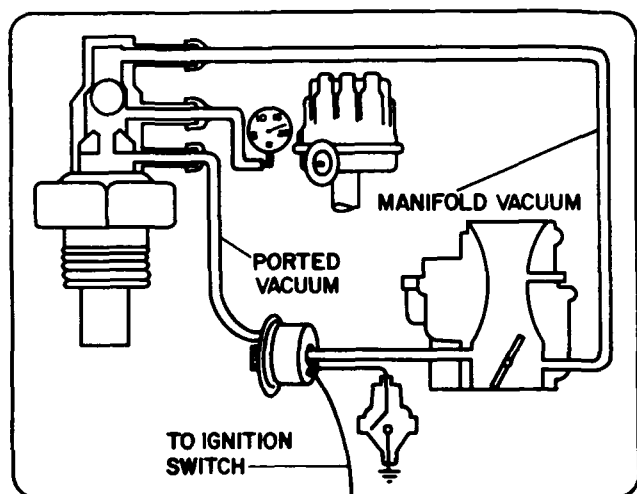

Figure 9-11
1. Figure 9-11 shows an operational test on a vehicle with automatic transmission. List the basic steps necessary to perform this test.